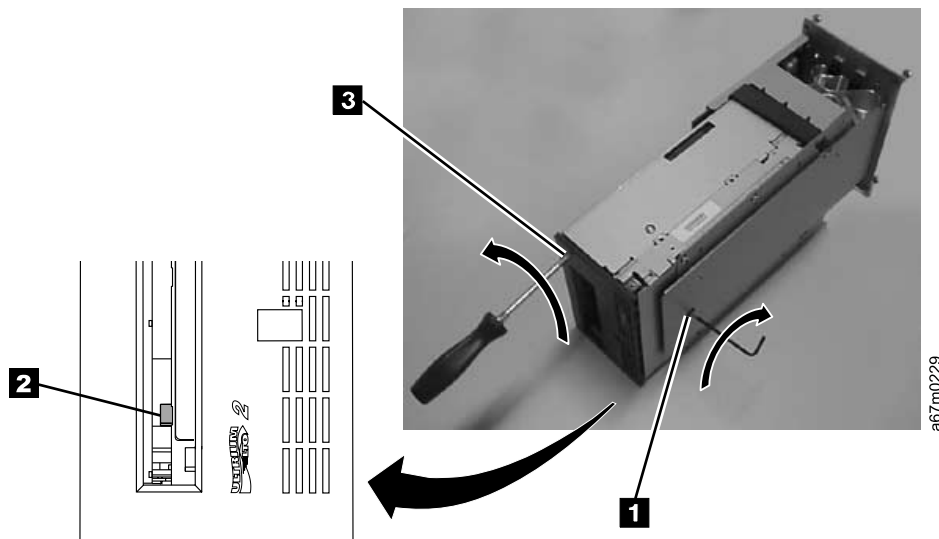

Figure 101. Determining whether the tape is broken. The view is from the front of the drive.
6. Locate the access hole at the bottom of the unit **1** in Figure 101.
7. Insert a 2.5-mm allen wrench into the access hole **1** in Figure 101 and position the wrench so it is seated in the screw of the supply reel motor (not visible).
8. Push open the door of the tape load compartment and locate the flag **2** in Figure 101 on the drive's takeup reel.
9. To determine whether the tape is broken, watch the flag **2** in Figure 101 on the drive's takeup reel while you rotate the allen wrench **1** in Figure 101 clockwise (do not let the wrench move counterclockwise):
- If the takeup reel does not turn when you rotate the supply reel motor screw clockwise with the allen wrench and if supply reel motor screw rotates freely, the tape is broken. You must determine the location of the leader block. To do so, insert a small-blade screwdriver or potentiometer-setting tool into the access hole for the loader motor gear **3** in Figure 101 on page 252. Rotate the screwdriver counterclockwise. You may have to rotate for a lengthy period:
11. With the allen wrench still inserted into the bottom access hole, insert a small-blade screwdriver or potentiometer-setting tool into the access hole for the loader motor gear **3** (see Figure 101 on page 252).
12. While keeping torque on the supply reel motor screw and rotating the allen wrench **1** (see Figure 101 on page 252) clockwise, rotate the loader motor gear with the small-blade screwdriver **3** (see Figure 101 on page 252) counterclockwise (see arrow). As you rotate the screwdriver, the allen wrench moves slightly.